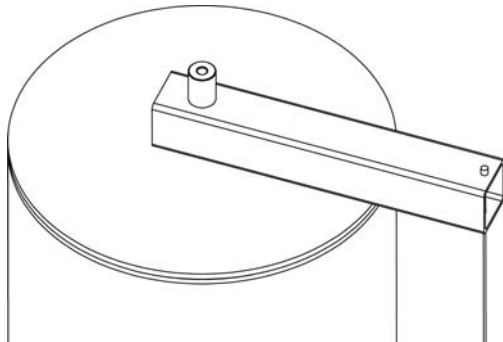

Fig. 8 Plumbing Fixture
- c) Drop plumb line (not included) from top of the mast, using fixture (not included) or equivalent (fig 8).